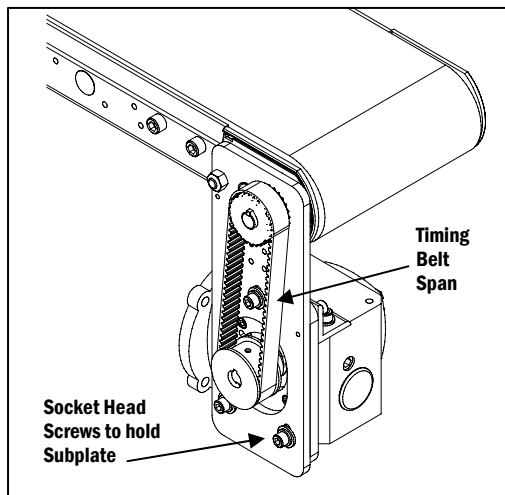
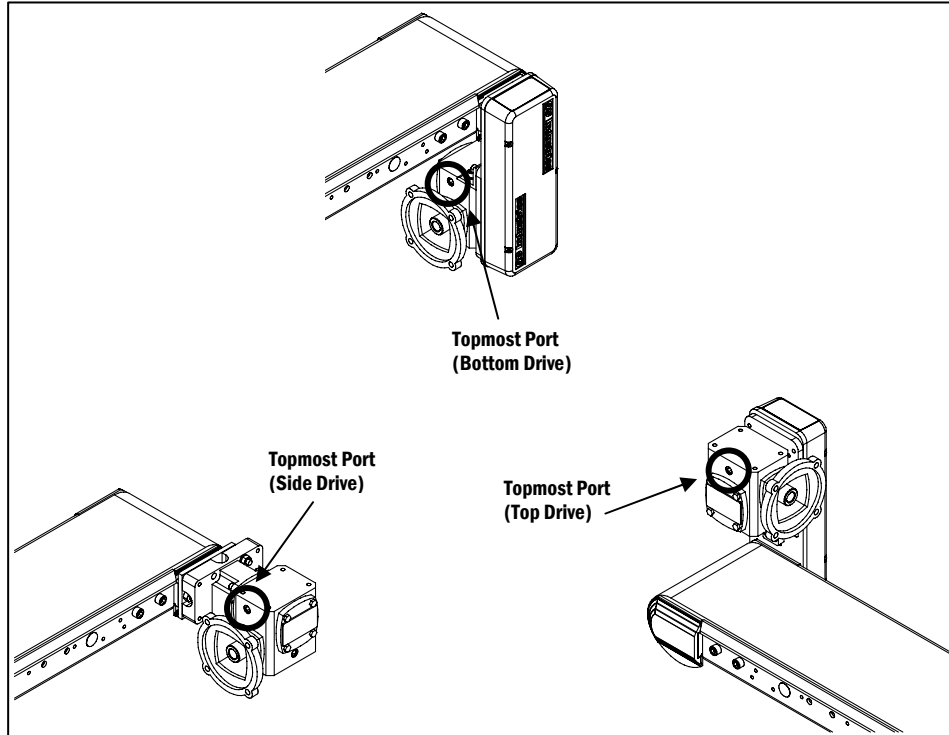

Figure 7
Figure 1
c. Retighten the three 1/4-20 Socket Head Screws with a 3/16” Allen Wrench to hold the Subplate in position (**Figure 7**).
⑥ Install the Speed Reducer’s Vent Plug and Motor
a. Using a 1/4" Allen Wrench, remove the Pipe Plug from the topmost port in the speed reducer (**Figure 1**). For Bottom and Side Drives, use the location above the reducer's flange. For Top Drives, use the location opposite the shaft above the nameplate.